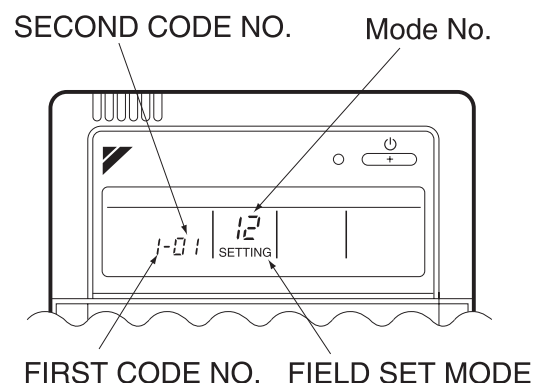

Fig. 31
- When in the field set mode, select mode No. 12, then set the first code (switch) No. to “1”. Then set second code (position) No. to “01” for FORCED OFF and “02” for ON/OFF OPERATION. (FORCED OFF at factory set) **(Refer to Fig. 31)**